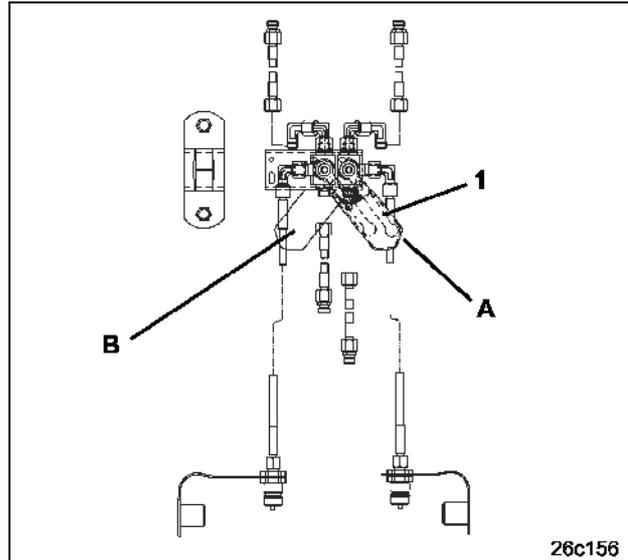

Fig. 160
- Move switching lever (Fig. 160/1) into Position "A" and fold out or in the outer sowing units.
- Move switching lever (Fig. 160/1) into Position "B". Change the marking sides of the track markers by actuating on the control unit of the tractor.